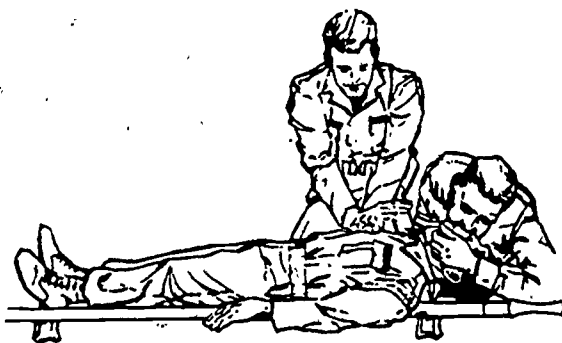

Figure 2-5. Two-person heart/lung resuscitation method.
3. Begin mouth-to-mouth resuscitation simultaneously with heart massage. If two people are available, one gives mouth-to-mouth resuscitation while the other gives closed chest cardiac massage (see figure 2-5). If only one person is available, alternate eight counts of cardiac massage with two counts of mouth-to-mouth breathing.